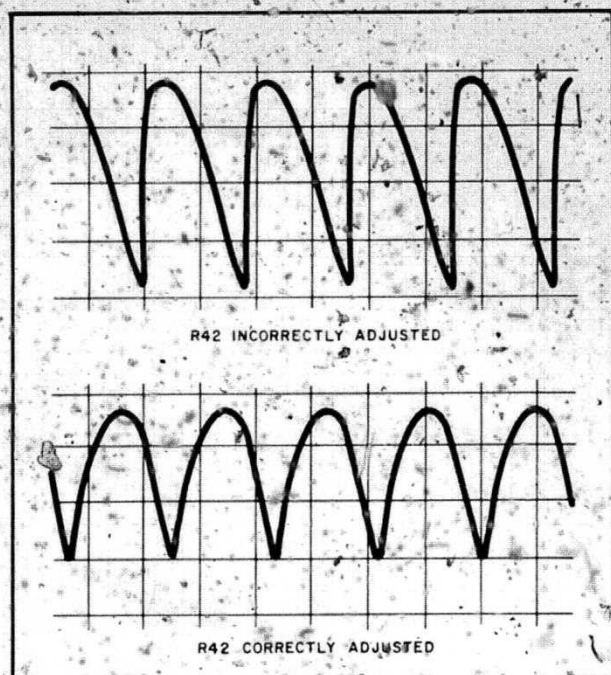

Figure 2. A8R42 Adjustment
- 3) Adjust A8R42 for the correct waveform as shown in Figure 2.